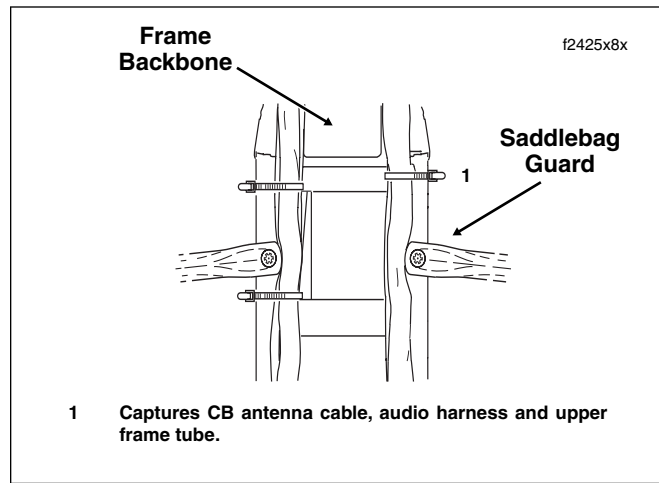
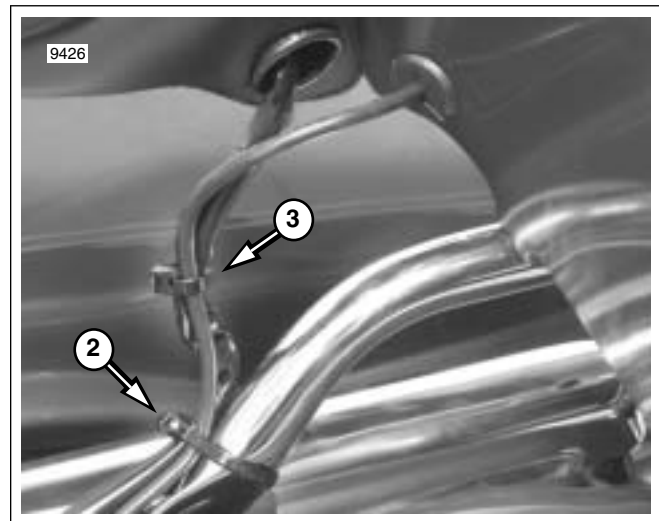

Figure 8-195. Capture CB Antenna Cable (FLHTCU)
Figure 8-196. Capture CB Antenna Cable (FLHTCU)
8. Carefully cut cable strap securing audio harness to right upper frame tube. See Figure 8-195. Cut two cable straps securing audio harness to luggage rack rail and speaker/passenger controls conduit. See Figure 8-196.
5. Loosely install **new** cable strap to secure CB antenna cable to right upper frame tube. See Figure 8-195. Loosely install two **new** cable straps to secure CB antenna cable to luggage rack rail and speaker/passenger controls conduit. See Figure 8-196.